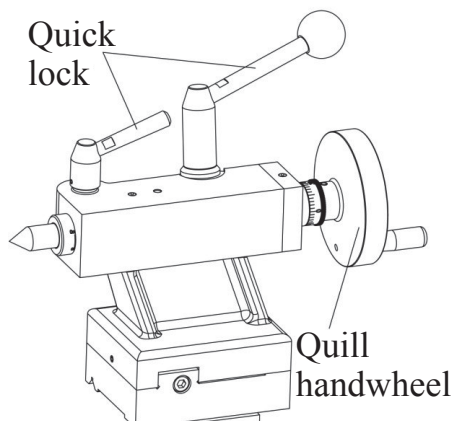

Figure 10 Tailstock components
1. Familiarize yourself with the tailstock components shown in Figure 10.